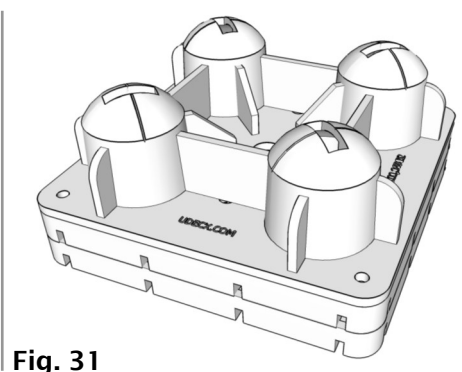
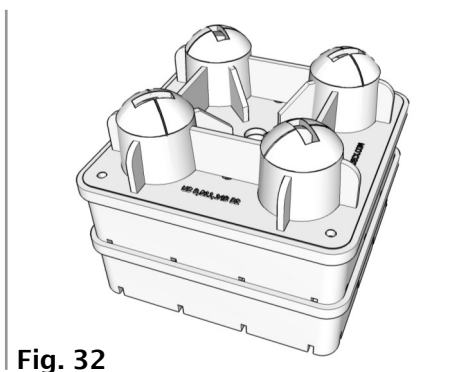

Fig. 31
Fig. 32
**14.** **DO NOT** place more than two 1" Shims (G) (Fig. 31) or two 3" Risers (H) below any Pier (A). (Fig. 32)